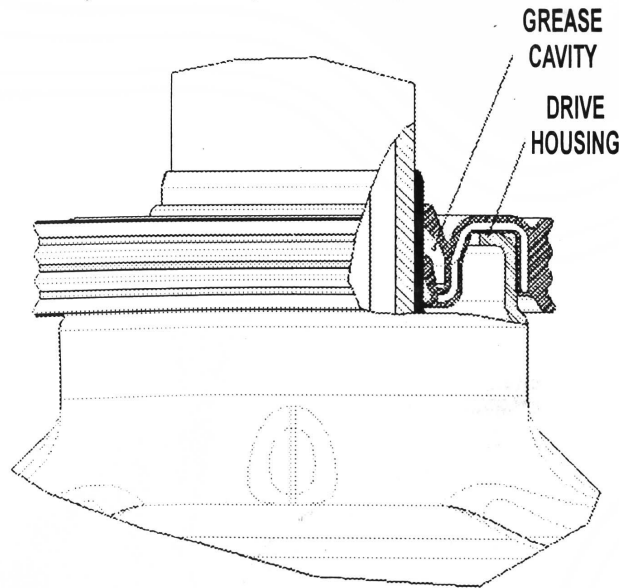

FIGURE 1
1. Apply grease onto seal lips and fill grease cavity between lips. See *Figure 1*.